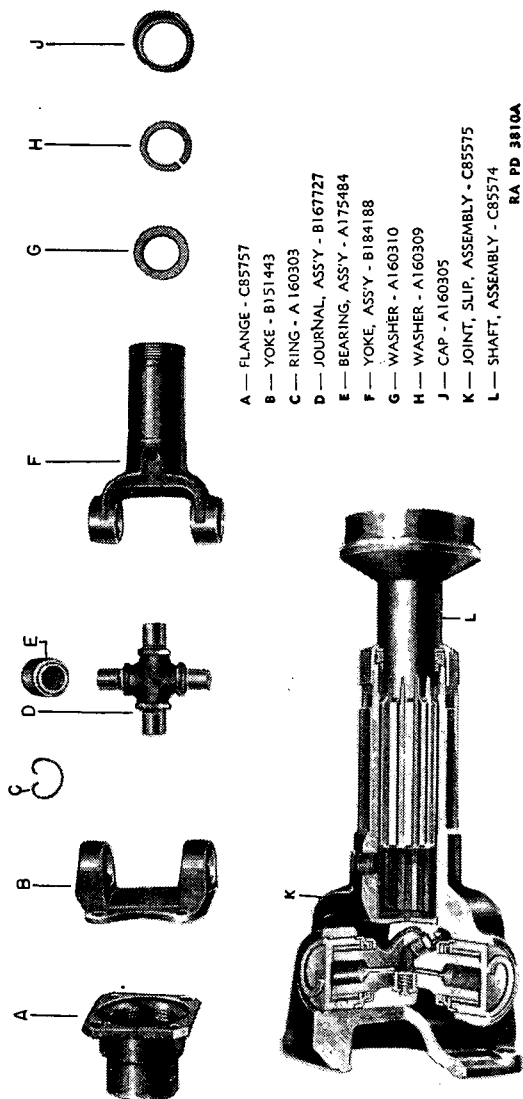

FIGURE 71.—Front axle propeller shaft, exploded.
(4) Secure brake— $\frac{9}{16}$ -inch open end wrench,  $\frac{9}{16}$ -inch socket wrench. Re-insert two flange bolts to secure brake disk and prevent damage from falling.
**28. Disassembly of components.**—*a. Front axle propeller shaft* (fig. 71).—Tools: thin nose pliers, brass drift, hammer, screw driver.